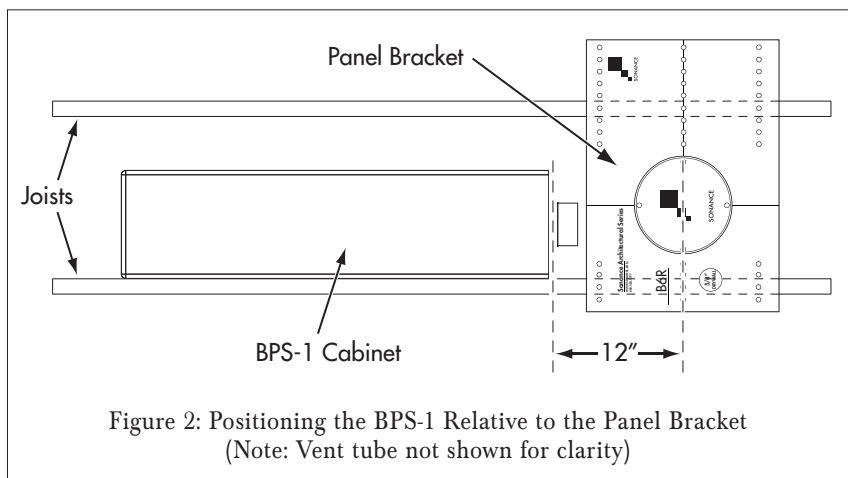

Figure 2: Positioning the BPS-1 Relative to the Panel Bracket
IMPORTANT: THE CENTER OF PANEL BRACKET'S SPEAKER OPENING SHOULD BE APPROXIMATELY 12" FROM VENT TUBE END OF BPS-1 CABINET (SEE FIGURE 2). MAINTAINING THE VENT TUBE'S PROPER LENGTH IS INTEGRAL TO THE
- Determine the location for the Architectural Series Panel Bracket and install it first (its location may be influenced by the locations of other AS speakers in the room). Then establish the location for the BPS-1 cabinet relative to the Panel Bracket. The vent end of the BPS-1 cabinet should be located 12" from the center of the Panel Bracket's speaker opening (see *Figure 2*, on page 2).